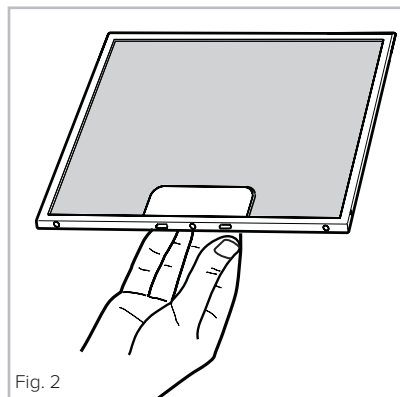

Fig. 2
1. Pull open the handle on the grease filter as shown in fig. 2. It will release at the handle side.